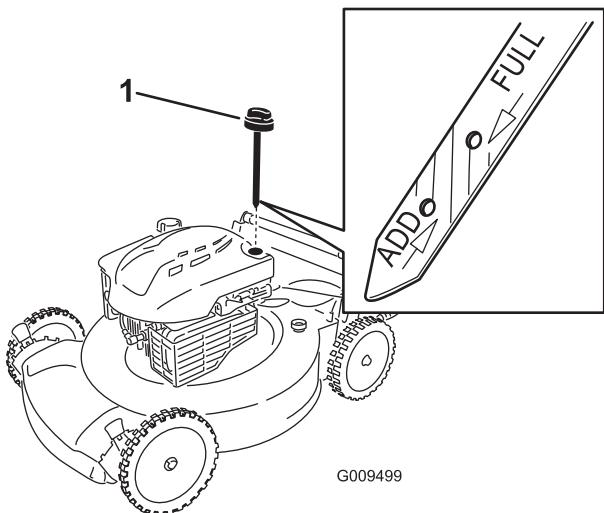

Figure 24
2. Remove the dipstick (Figure 24).
4. Slowly pour oil into the oil-fill tube until the oil level reaches the **Full** line on the dipstick (Figure 24). **Do not overfill.**